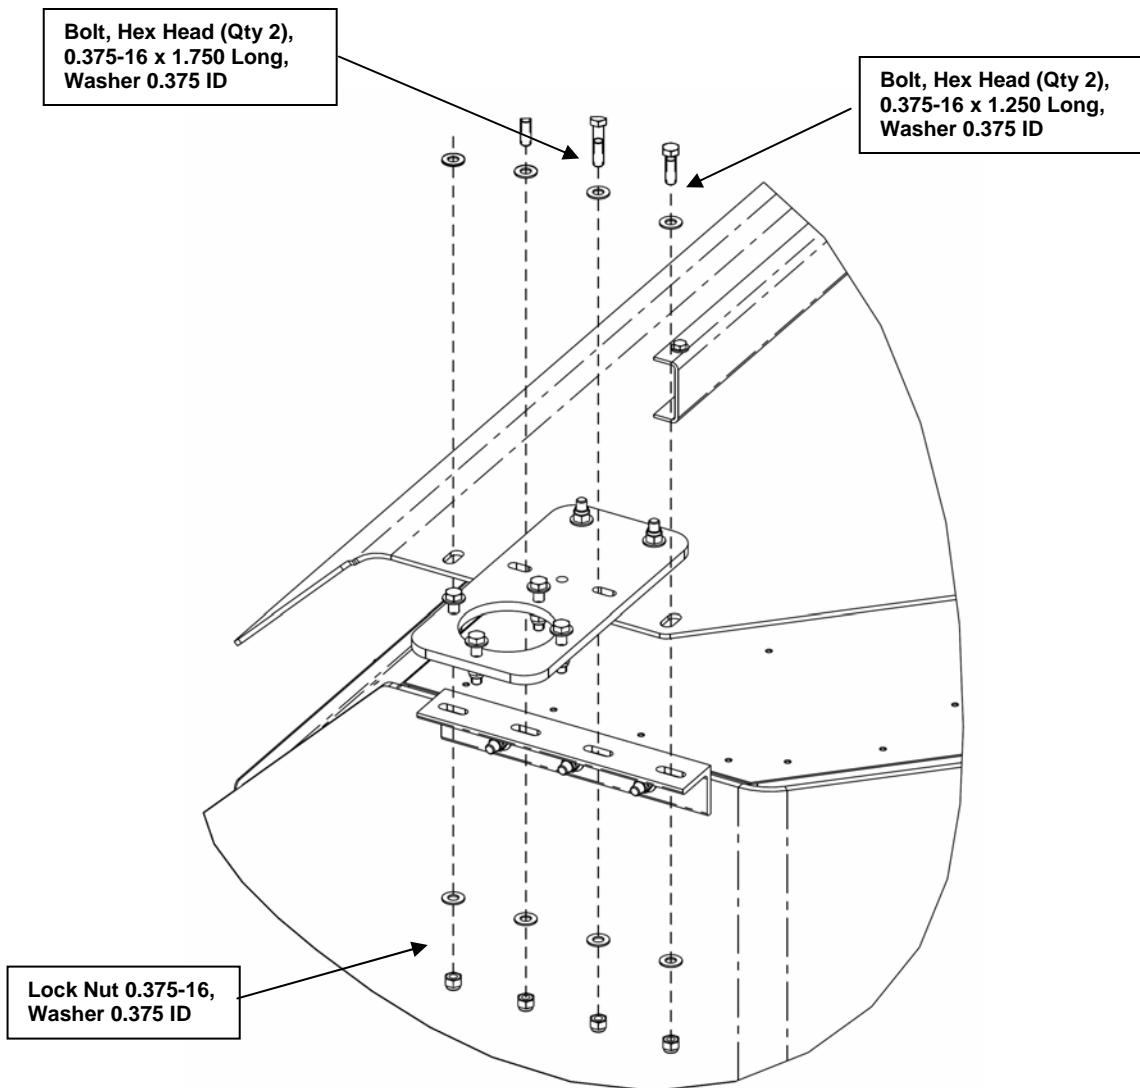

**Figure 41. Armored Roof Panel installation.**
- g) Once all the holes are lined up, insert the bolts and two Standoffs (P/N 8080r S .5 35) as shown in Figure 41, but do not fully tighten them. The bolts will be fully tightened once the two Rear Armor Panels have been attached to the Armored Roof Assembly panel.